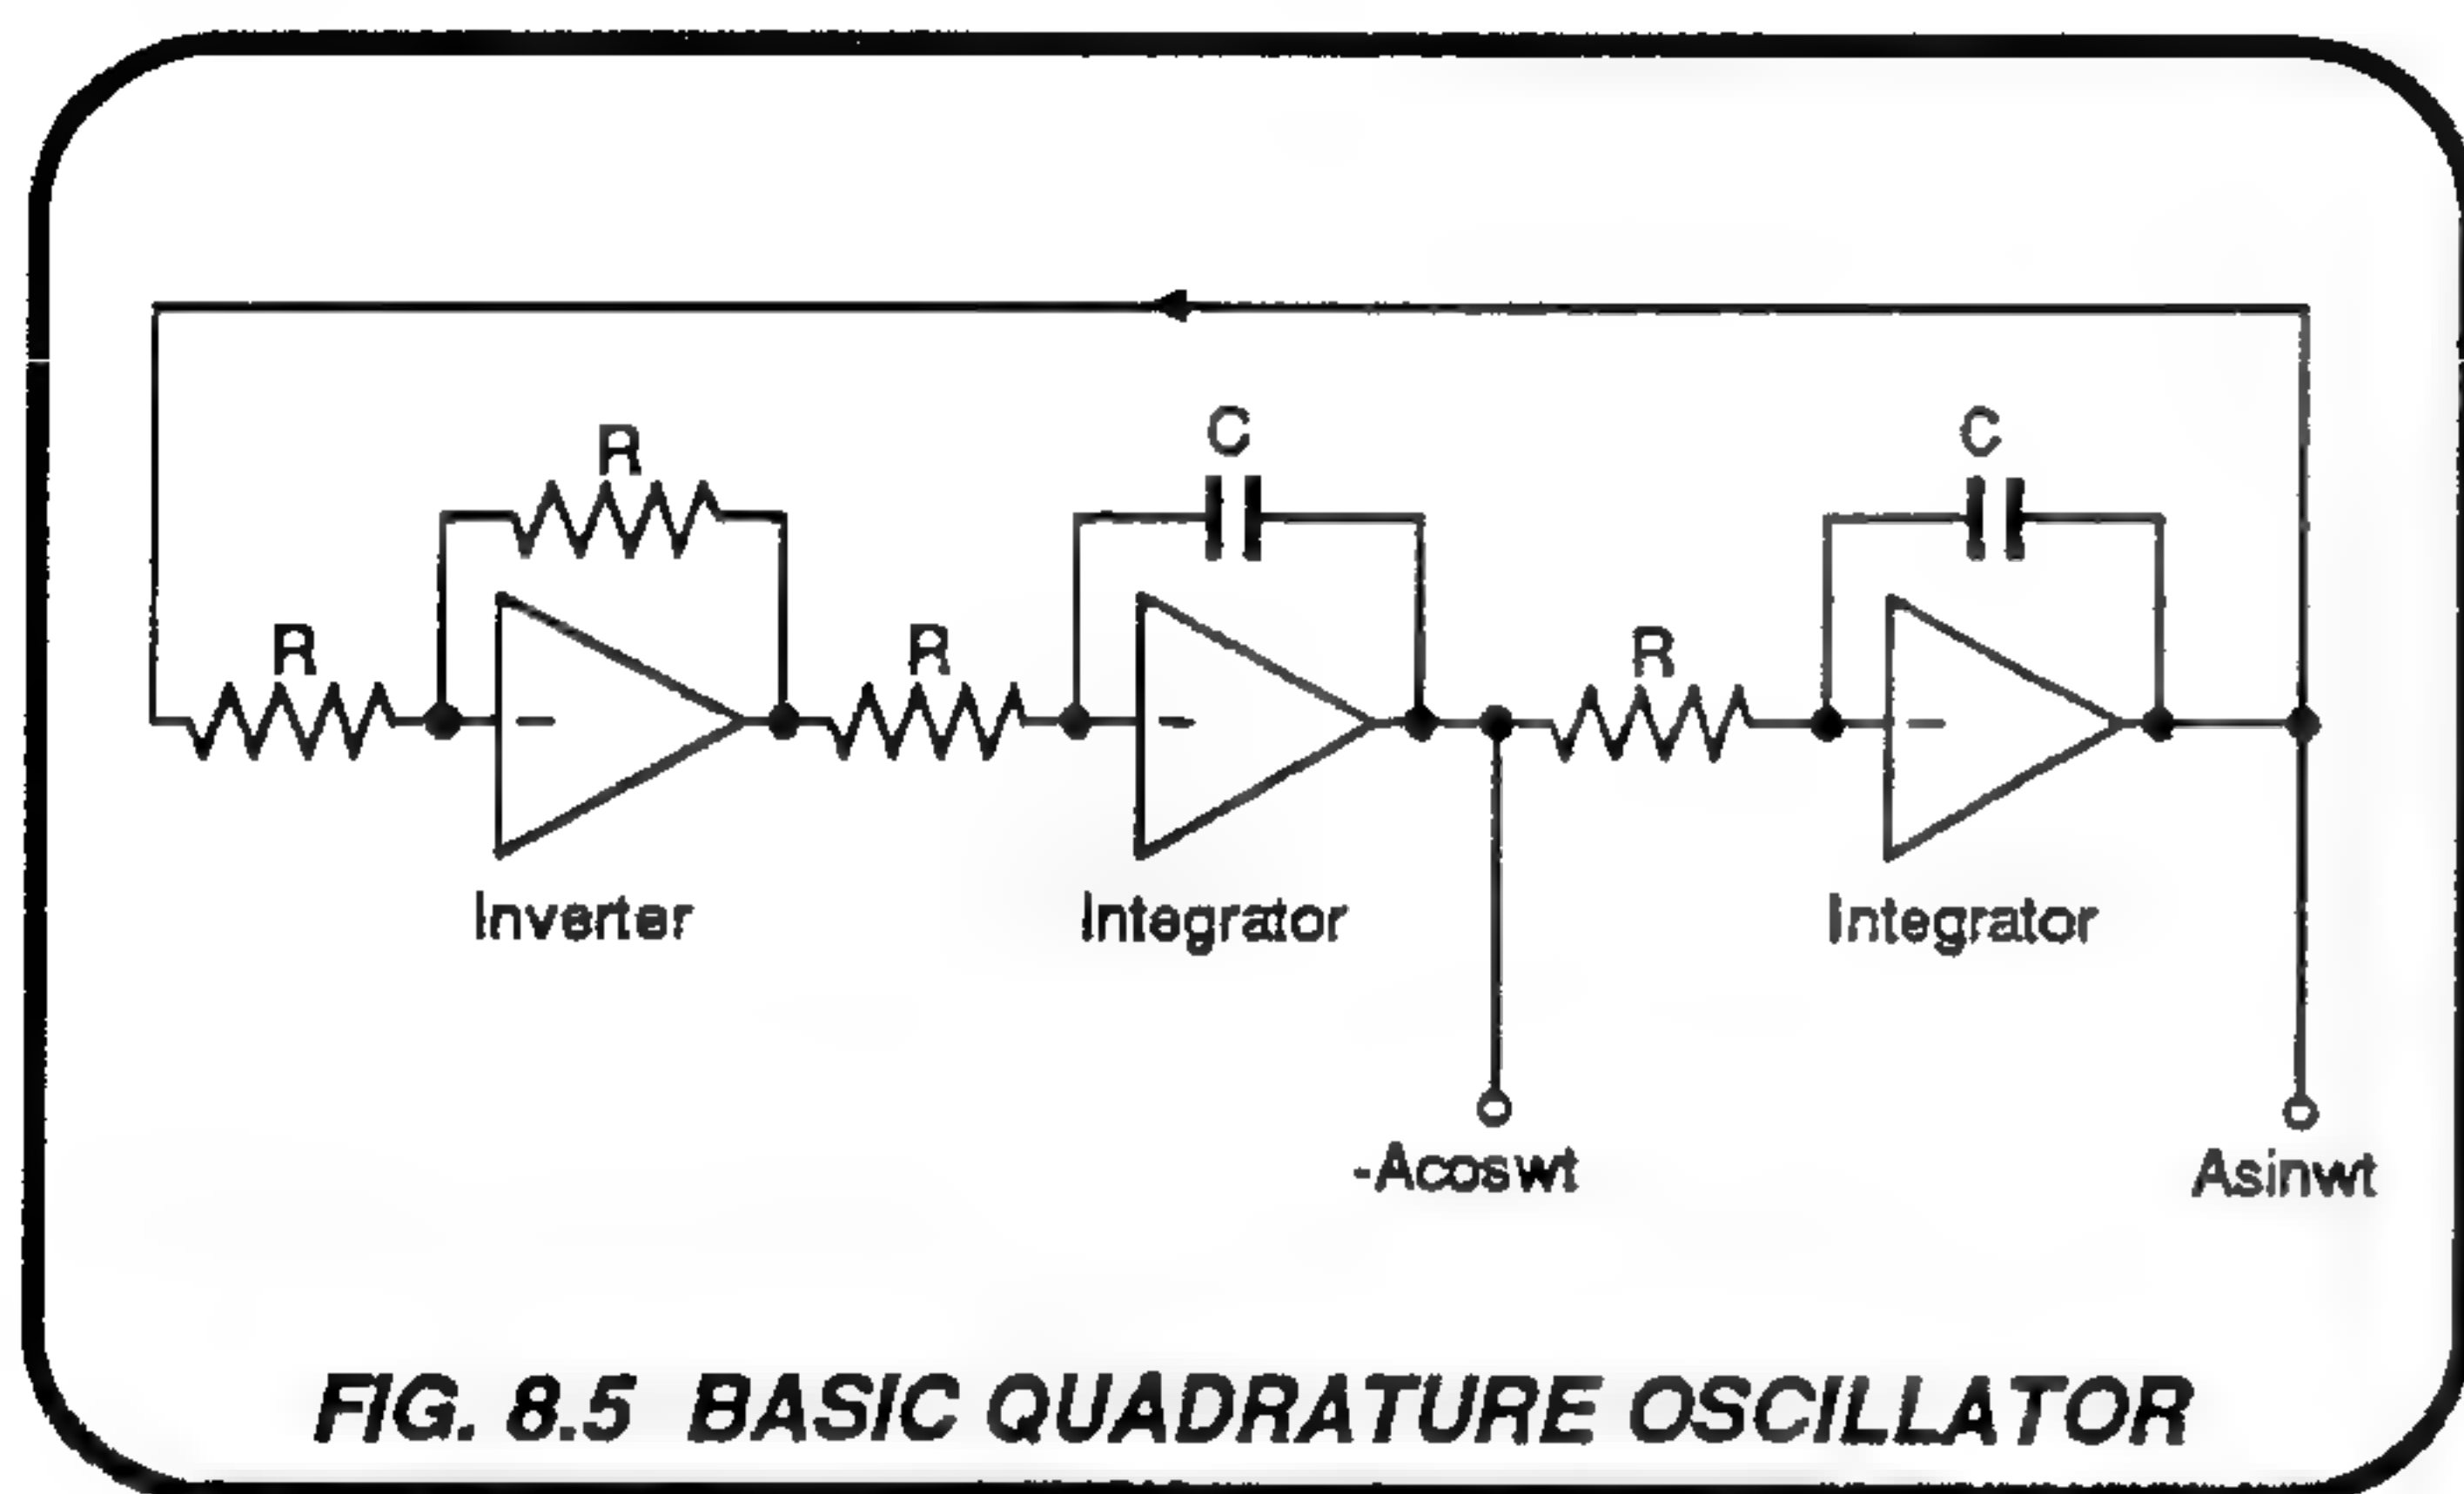

FIG. 8.5 BASIC QUADRATURE OSCILLATOR
8.2.2.1 Basic Circuit (Fig. 8.5)
8.2.2.2 Inadequacies of the Basic Circuit (Figs. 8.5 and 8.6)
The two main conditions for stable oscillation at constant amplitude are: exactly unity loop gain, and exactly 360° (or multiple of 360°) of loop phase-shift; so the circuit of Fig. 8.5 clearly does not satisfy these conditions. Without some attempt to control gain and phase, the loop would be either over- or under-damped, so oscillations would either die away or increase in amplitude until limited by the supply rails.